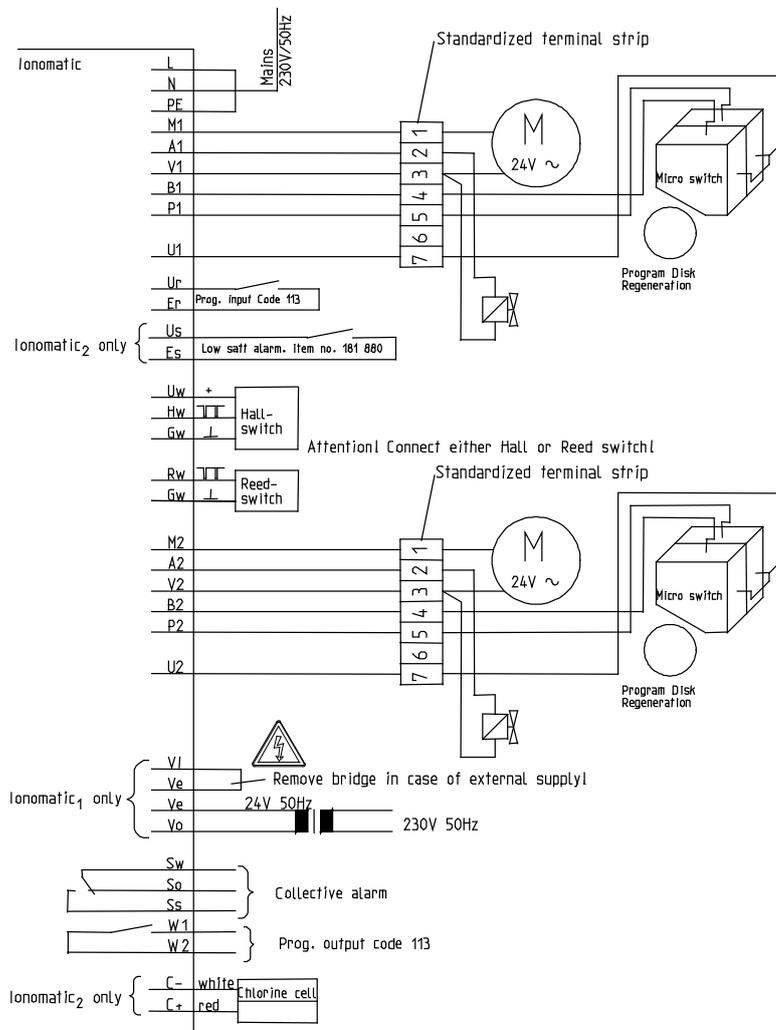
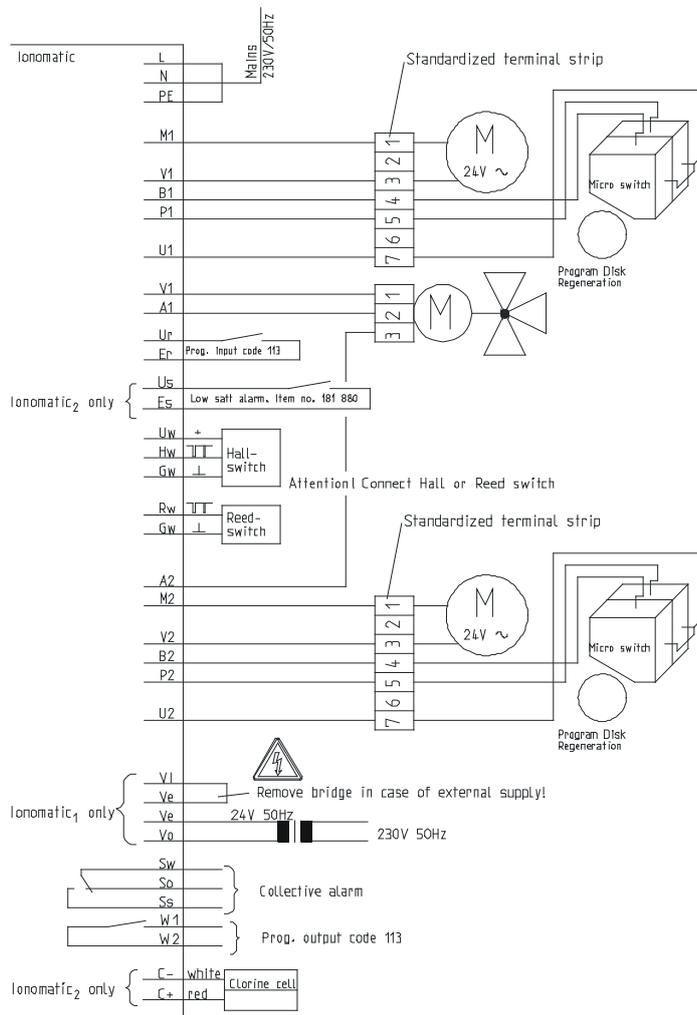
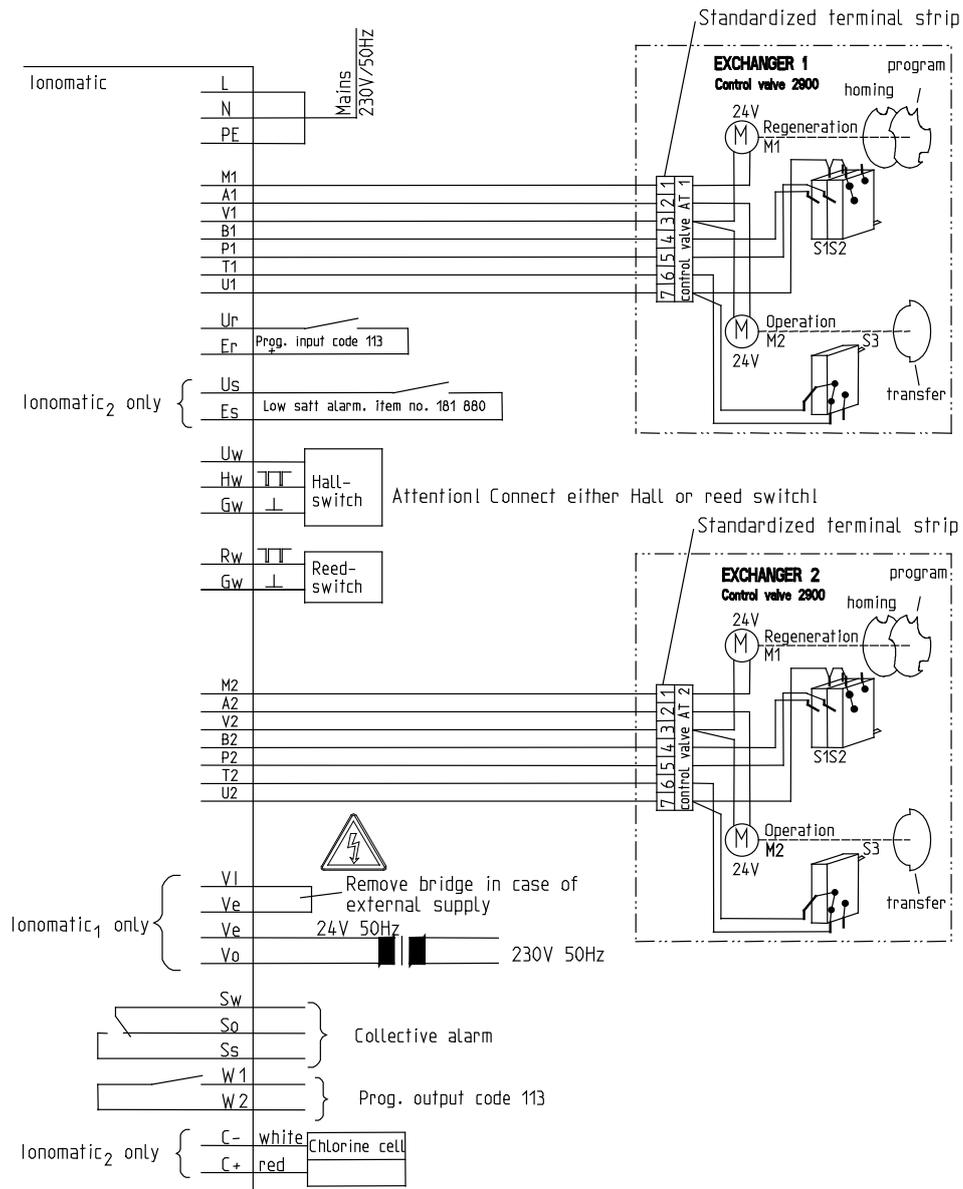

Fig. D-7: Terminal plan for small systems (nominal connection widths ¾“ and 1“ )
Fig. D-9: Terminal plan for medium-sized systems (nominal connection width 1½")
Fig. D-10: Terminal plan for large systems (nominal connection width 2“)
The control electronics must be fastened to the system by means of the mounting kit supplied with the system (for reference see fig. D-6 (b) for small systems, fig. D-2 for medium-sized and large systems) and must be connected according to the terminal plans shown in fig. D-7, fig. D-9 resp. fig. D-10.
2. Route 7-wire cable between control valves and control electronics and connect according to terminal plan (fig. D-7).
Connect the coupler sockets to solenoid valves, lead the cables to the control valves and connect them according to terminal plan (fig. D-7).
6. Connect the water meter according to terminal plan (fig. D-7).
2. Route 7-wire cable between control valves and control electronics and connect according to terminal plan (fig. D-9).
3. Route 3-wire cable between control electronics and actuator and connect according to terminal plan (fig. D-9).
6. Connect the water counter according to terminal plan (fig. D-9).
3. Connect according to terminal plan (fig. D-10).
5. Connect water meter according to terminal plan (fig. D-10).